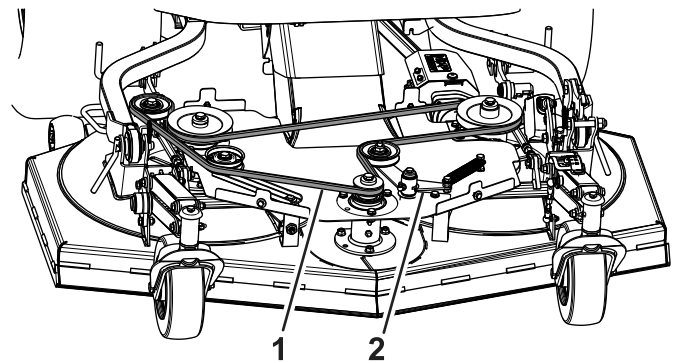

Figure 106
4. Remove the idler arm spring from the cutting unit post (Figure 106).
1. Route the new belt around the pulleys as shown in Figure 106.
2. Install the idler arm spring onto the cutting unit post (Figure 106).